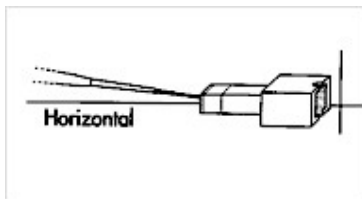

Fig. 7
3. Hold the GeneCAPSULE™ horizontally between your fingers and insert a provided pipet tip, until you reach the gel piece and remove the entire free TAE buffer from the Gel-PICK™ [Fig. 7]. Any buffer left in the Gel-PICK™ will be extracted with the eluted DNA and will result in an increase in the elution volume.